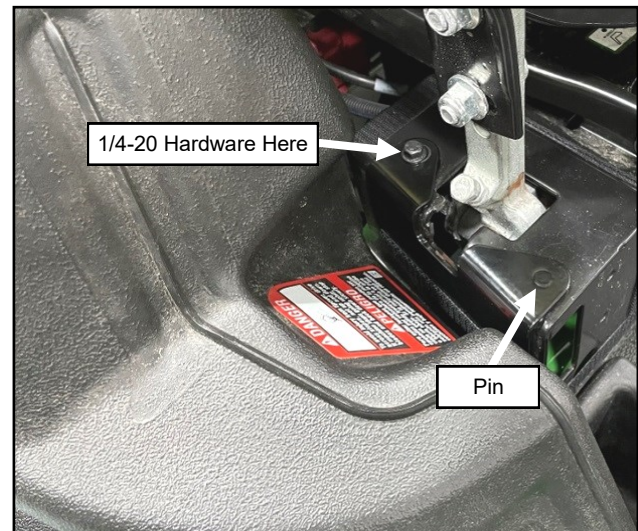

Fig. 1.22 (Install Arm Restrictors, Right)
1.22 Install the arm restrictors using 1/4-20 hardware, making sure the locating pin is on the front hole as shown in Figure 1.22.